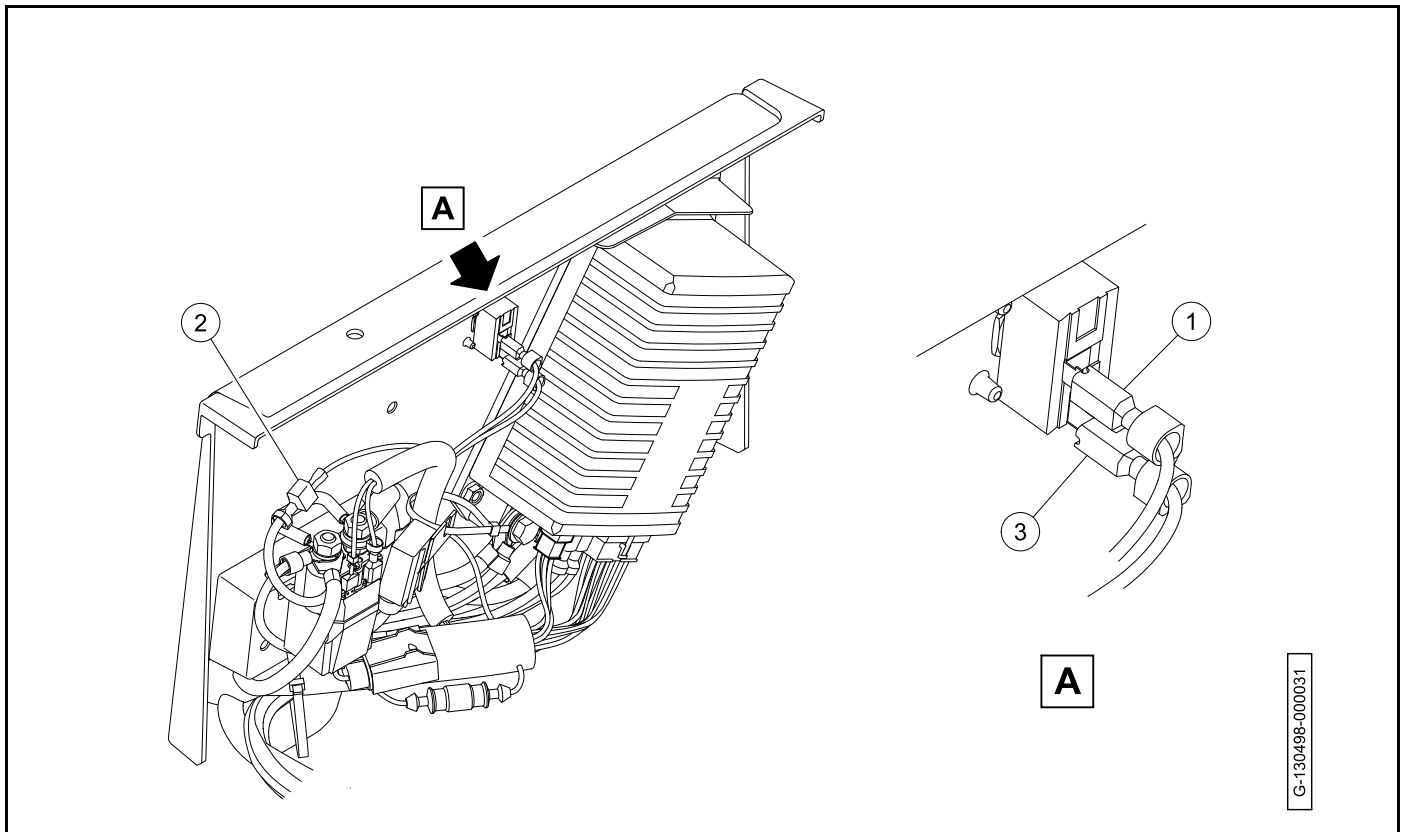

Figure 12-8
11. Measure the voltage of the pink wire (1) on the Run/Tow switch (**Figure 12-8**).